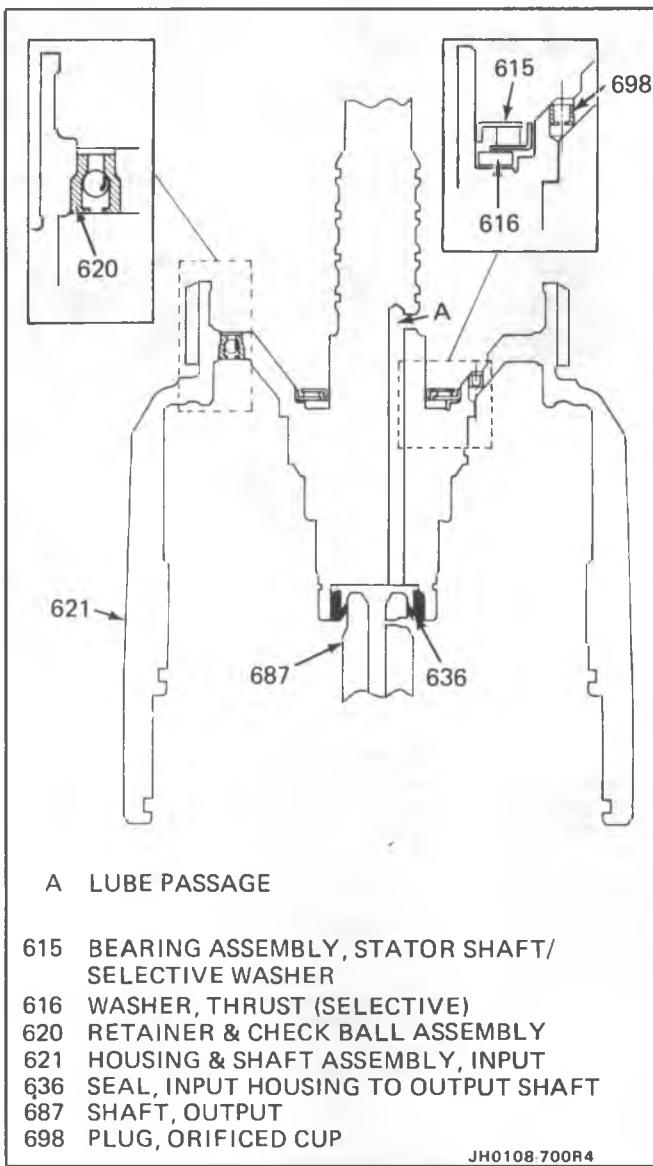

Figure 60 Input Housing Check Valve Ball
4. Overrun clutch piston (632)
- inner and outer lip seals (631)
5. Forward clutch piston assembly (630)
- inner and outer lip seals (629)
6. Forward clutch housing (628)
7. The 3-4 clutch spring assembly (626)
8. The 3-4 clutch apply ring (625) and piston (623)
- inner and outer lip seals (624) from piston
9. Forward clutch to input housing "O" ring seal (622)
10. Four turbine shaft oil seal rings (619)
**Inspect (Figure 60 and 61)**
2. Input housing and shaft assembly (621)
- Presence of orificed cup plug (698)
- Inspect (Figure 60 and 61)**
- Turbine shaft "O" ring seal (618) for nicks, cuts, or damage
- Input housing check valve ball (620).
**Important (Figure 60)**